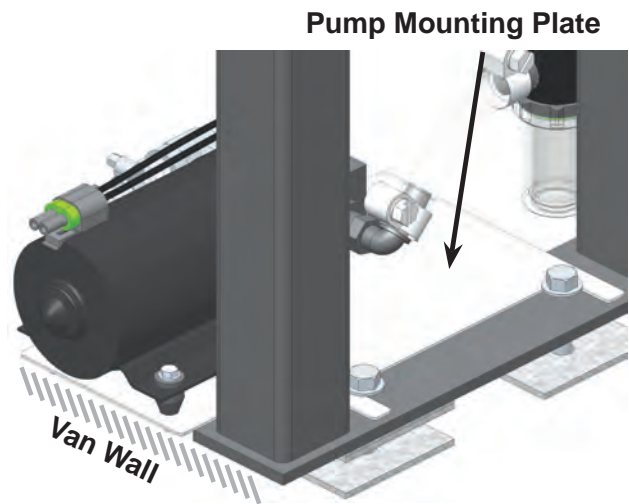

Figure 71. Slide Mounting Plate under Screws
2. Loosen the 2 tap bolt screws and slide the pump mounting plate under the screws so that the plate tabs are secured by the screws (see Figure 71).